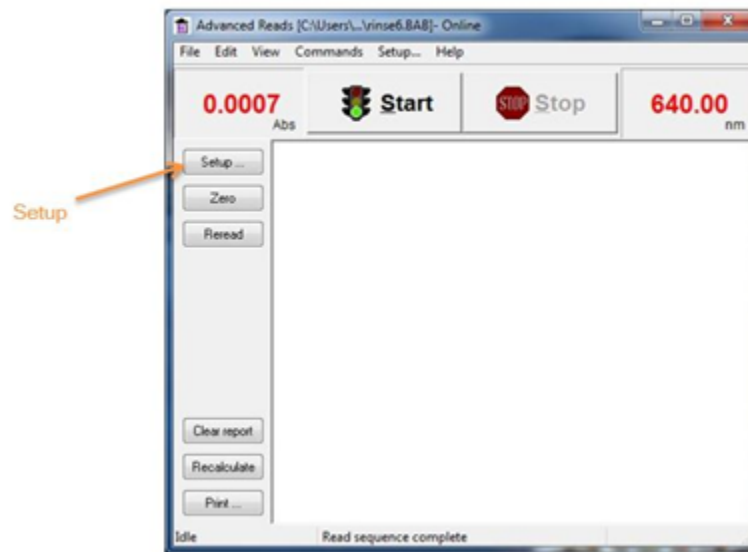

Figure 4 : Advanced Reads main screen
In the Advanced Reads software, click the setup button (figure4).
- Click on **START** in the main Advanced Reads window (Figure 4).